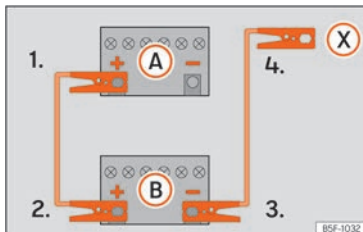

Fig. 49 Diagram of connections for vehicles without Start-Stop system.
2. Connect one end of the *red* jump lead to the positive (+) terminal of the vehicle with the flat battery (A) » » Fig. 49.
3. Connect the other end of the *red* jump lead to the positive terminal (+) in the vehicle providing assistance (B).
- 4a. *In vehicles without a Start-Stop system:* connect one end of the *black* jump lead to the negative terminal (-) of the vehicle providing the current (B) » » Fig. 49.